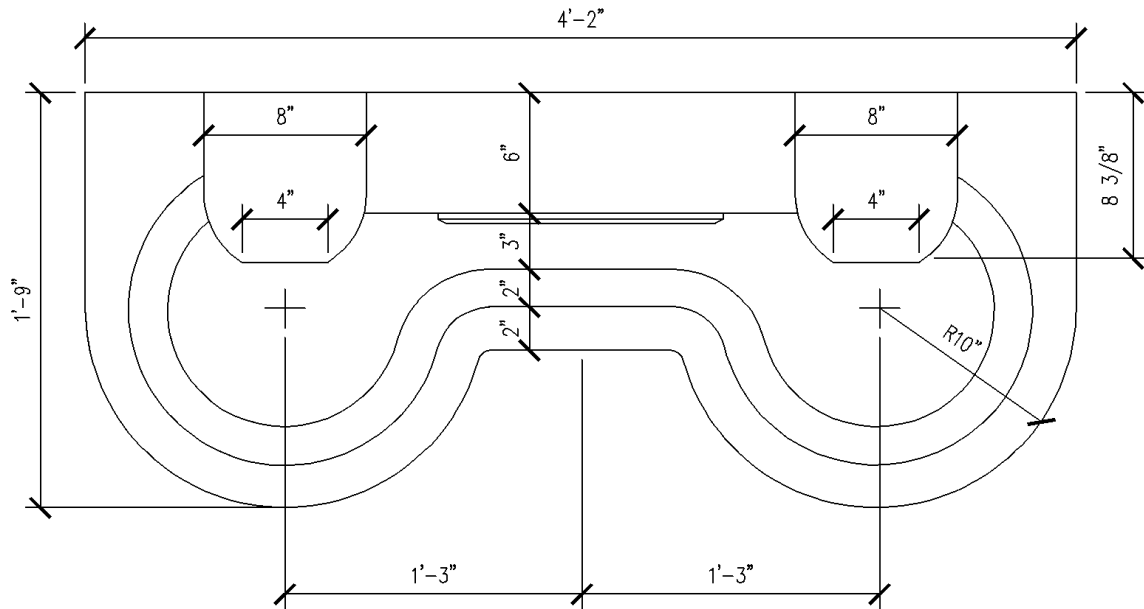

Figure 3-1.5 Draw this lavatory system in a new drawing file with origin centered on the back side
12. In a new drawing, draw the *Lavatory System* shown in **Figure 3-1.5**; make sure the origin is at the back and centered.